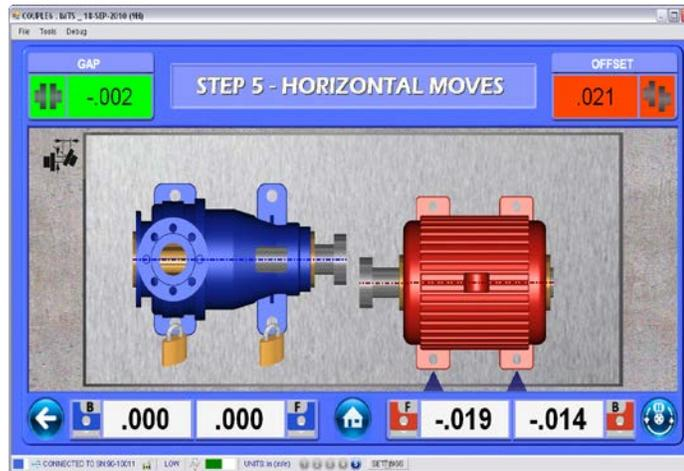

Figure 55 -- Aligning laser beams with S-670 to take Uncoupled Shaft data in Point Mode using the dust cover/alignment tool
4. Rotate the T-1285 Target (*do not touch the laser adjustment wheel*) until the laser beams nearly disappear into the holes (or are centered on the vertical white line if the laser beams are too high) in the Dust Cover/Alignment Tool (*see Figure 55*).